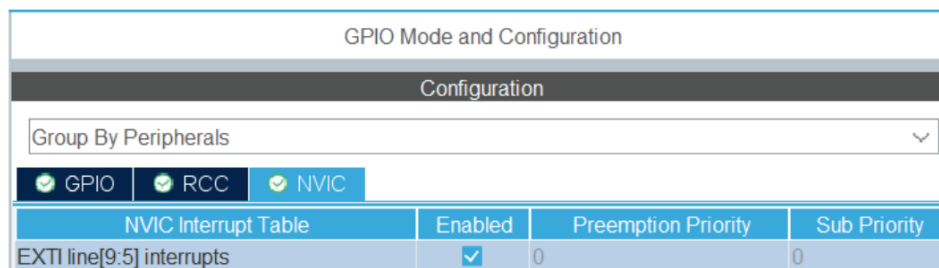

Figure 1.13: Interrupt Enabling
- Enable the interrupt for the corresponding EXTI line (e.g., **EXTI line 0**, **EXTI line 1**, etc.) by checking the box next to it (Figure 1.13). This ensures that the interrupt is active in the NVIC.